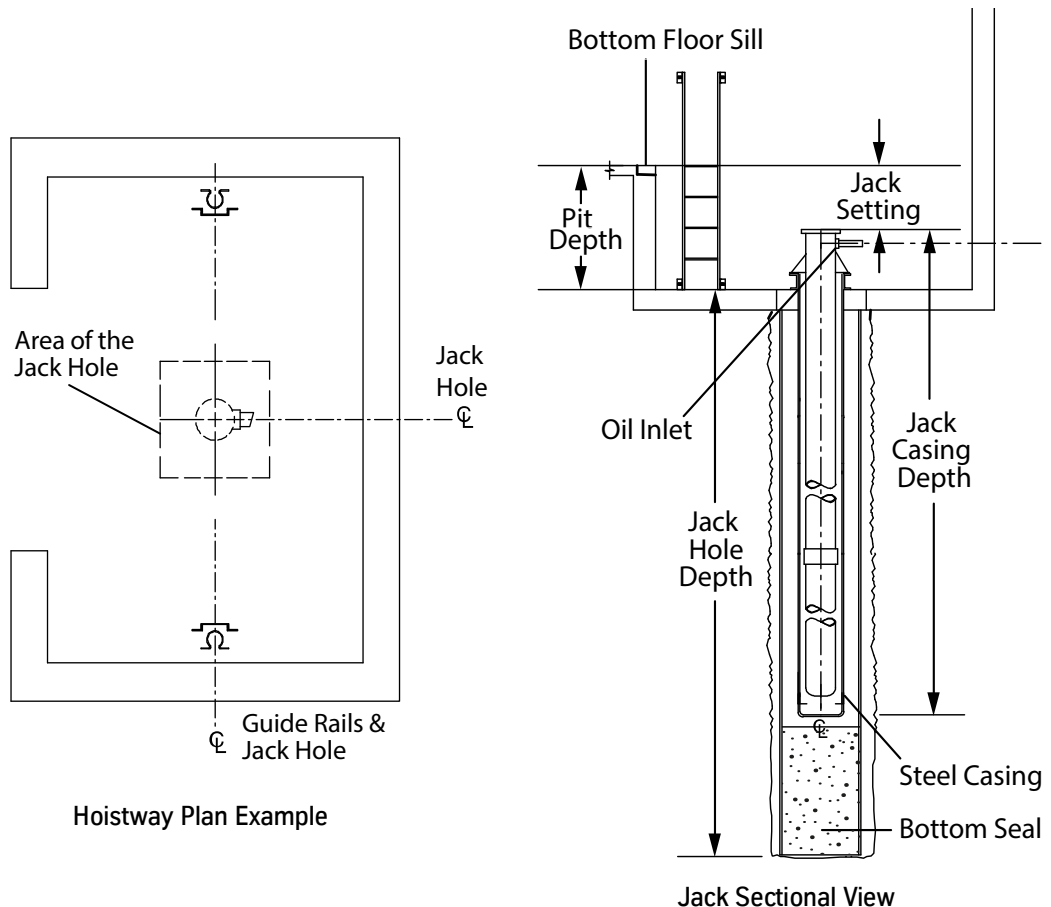

Figure 1 - Hoistway Plan and Sectional View
1. Use the job layouts that include a sectional view and a hoistway plan to determine the proper location for the jack assembly. For an example, see Figure 1.